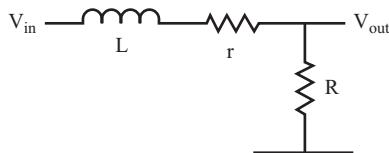

FIGURE 12.8
- 45.** In the circuit shown in Figure 12.8, $V_{in} = 10 V_{pp}$ AC, riding on a 5-volt DC level; $f = 1 \text{ kHz}$; $L = 10 \text{ mH}$; $r = 9 \text{ ohms}$; and $R = 54 \text{ ohms}$. Find AC V_{out} , DC V_{out} , X_L , Z , $\tan \theta$, and θ . _____